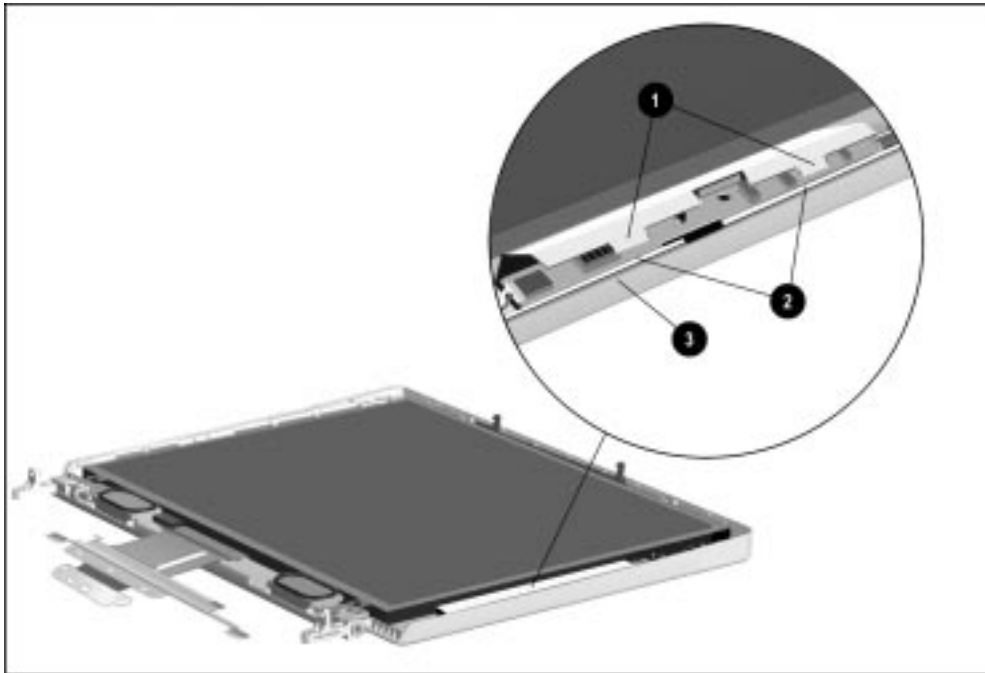

Figure 5-66. *Replacing the Inverter Shield*
CAUTION: When installing the display panel, make sure the tabs on the inverter shield ① are inserted between the sheet metal ② and the outside plastic edge ③ of the display enclosure (Figure 5-66). Failure to properly insert the inverter shield can result in damage to the display assembly.